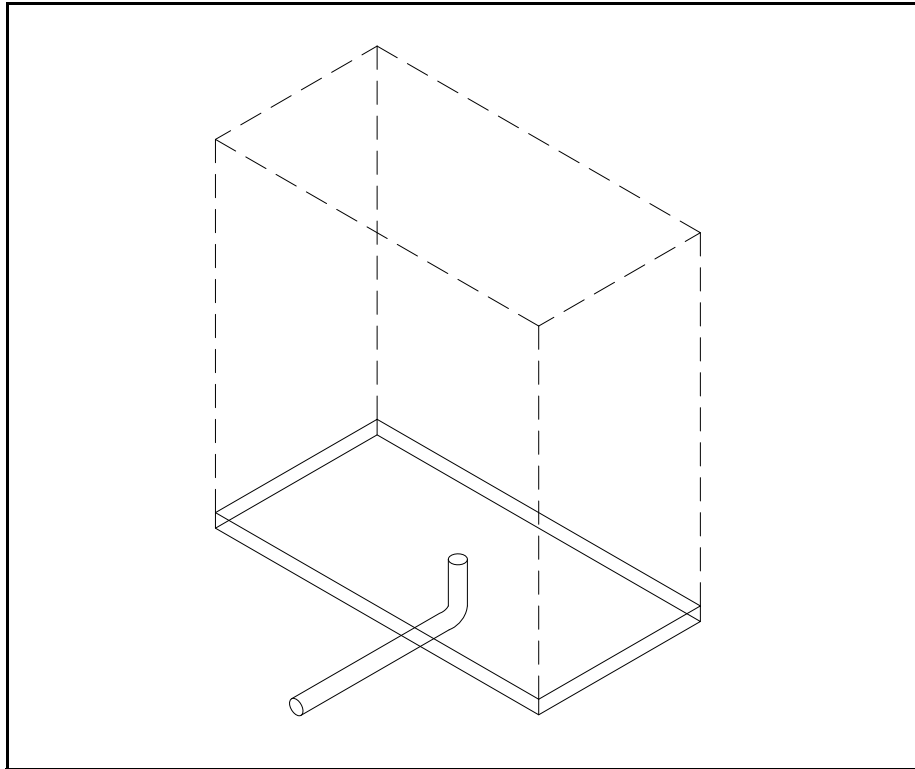

Figure 11-10: Pad Drain for Freestanding Switchgear
- PGE must review and approve of any water accumulation and drainage systems prior to installation. See **Figure 11-10** for a pad drain for freestanding switchgear.